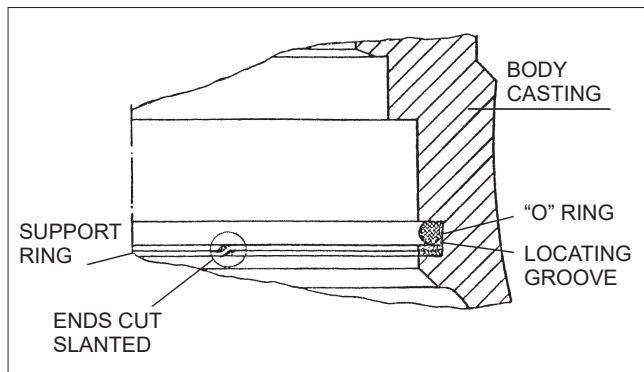

Fig. 17 O-ring as backseal
- Place the support ring, made of two rounds of PTFE strip, into the O-ring groove. The strip must be one-piece with the ends cutted as shown in Fig. 17.